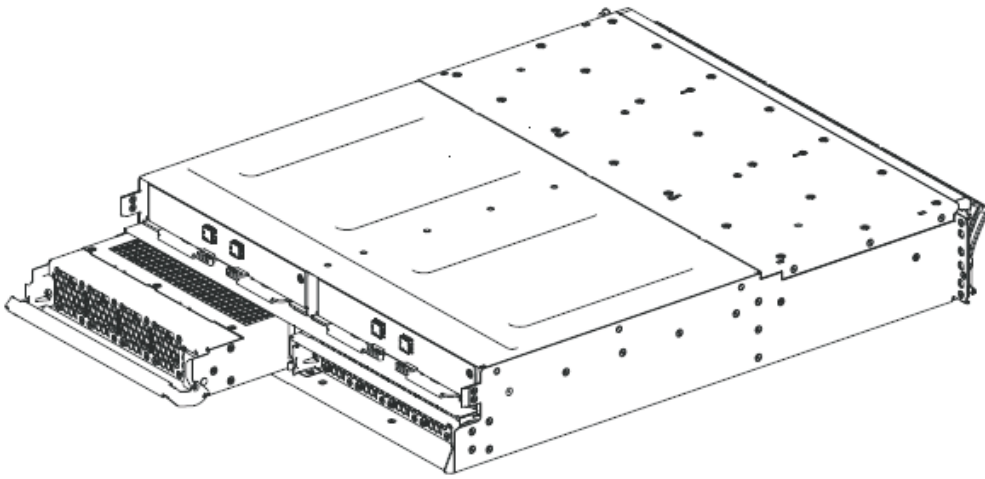

Figure 87. Removing the power supply unit from the left side of the expansion enclosure
- Using the handle, gently slide the power supply out of the enclosure, as shown in Figure 87.